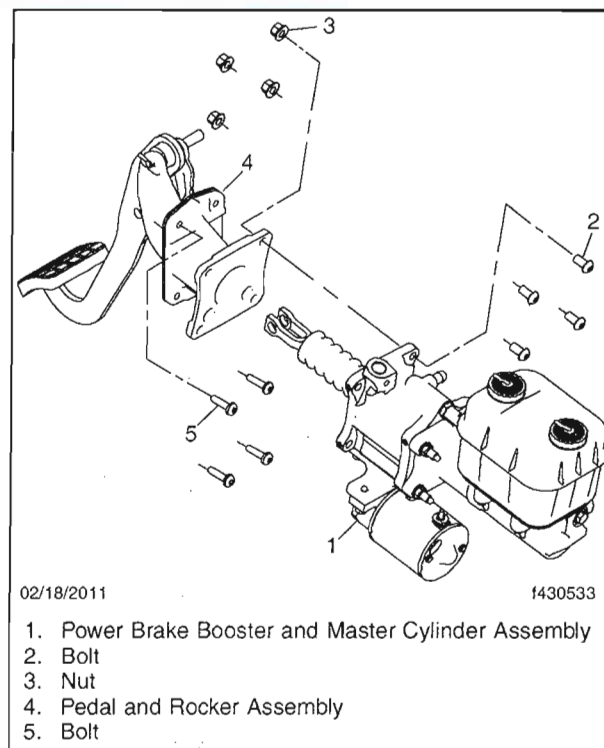

Fig. 6, Removing the Fixed Brake Pedal
- Remove the cotter pin from the brake clevis and remove the clevis pin from the brake pedal. See **Fig. 6**.